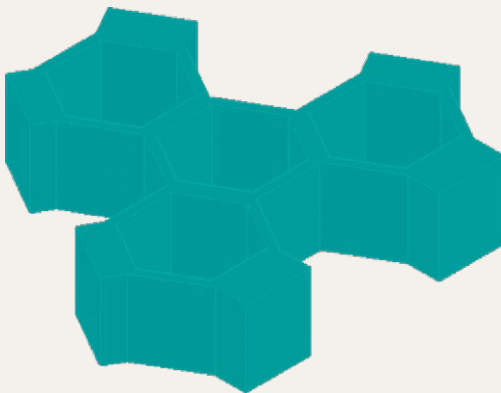

Fig. 12.45 Exercise 3
3. Fig. 12.45 shows the 3D model from Exercise 2 acted upon by the **Presspull** tool from the **Home/Create** panel. With the 3D model from Exercise 2 on screen and using the **Presspull** tool, construct the 3D model shown in Fig. 12.45. The distance of the pull can be estimated.